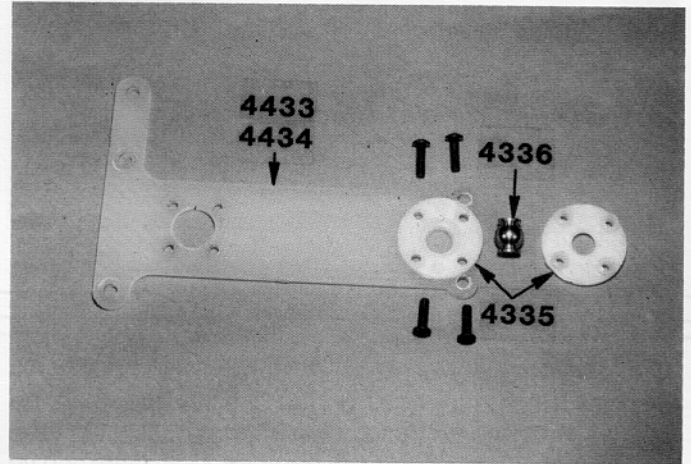

Fig. 12
□ **Figs. 12 & 12a**—From Bag #3 take the #4336 steel pivot ball and the #4335 plastic pivot socket and place the ball in one side of the socket, and then place the other half of the socket onto the ball and align all four screw mounting holes. Mount the ball socket assembly onto the forward end of the #4433 or 4434 T-bar where shown. Install the four screws, but be careful not to overtighten. If this ball is tight in the plastic socket, it's okay, it isn't supposed to swivel.